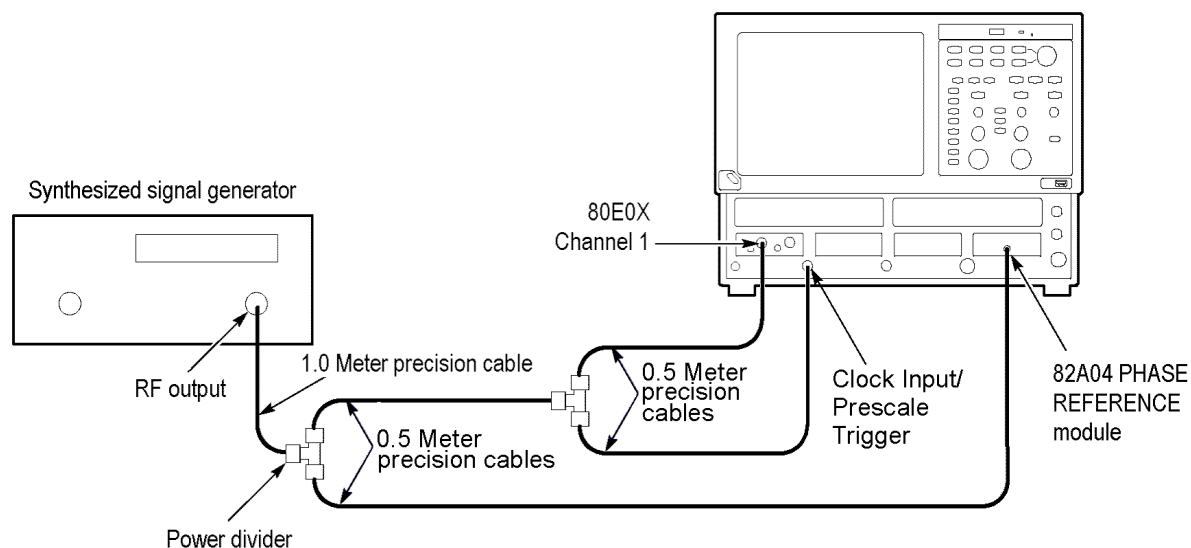

Figure 11: Phase corrected, Clock Eye external triggered jitter test setup
3. Connect the test equipment (See Figure 11.)